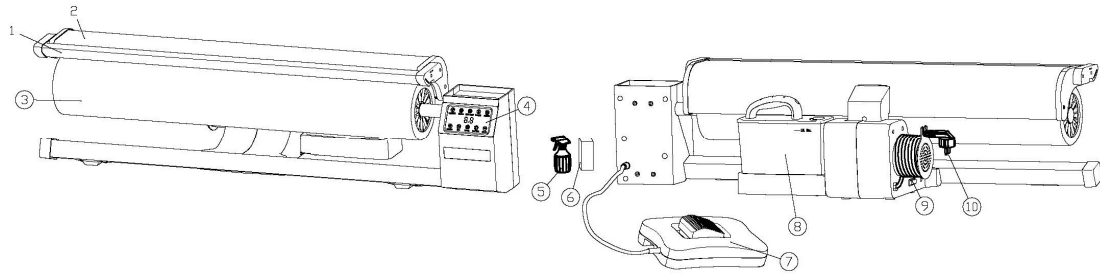
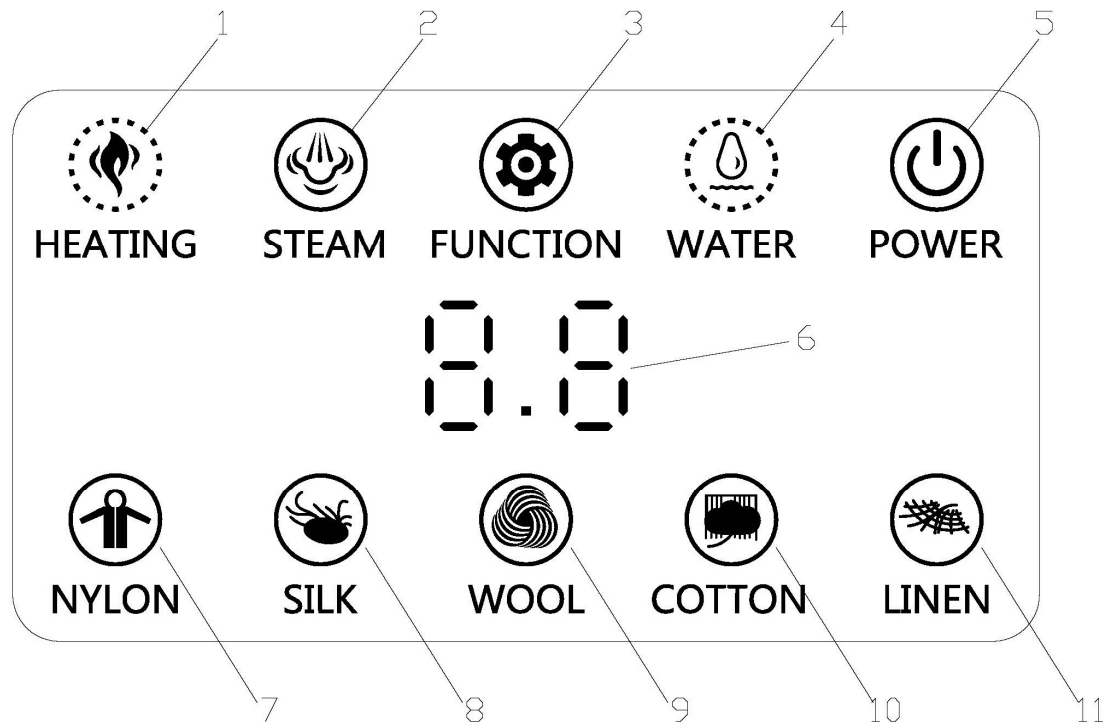
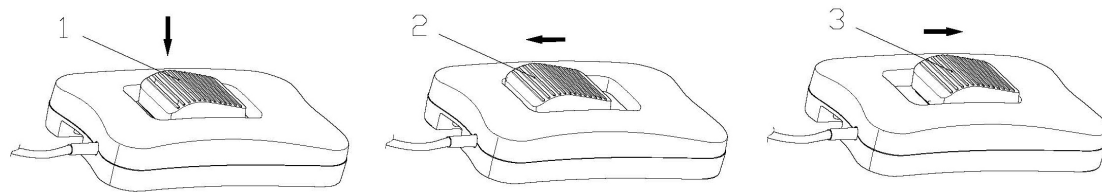

Figure 1
Figure 2
Figure 4
Remove the power cord from the winding frame (Figure 1 No.10), insert the plug into power socket.
Turn the power switch (Figure 1 No.9) to position "I", and at this point, the POWER light (Figure 2 No.5) on the control panel in red. Press the POWER button 2 seconds to start up the product and the pressing plate will be opened and uplifted to the highest position automatically.
The steam ironing is applicable to the menu modes of wool, cotton and linen. Place the fabric on the roller horizontally and select the corresponding menu according to different shell fabrics. The heating indicator light (Figure 2 No.1) is "on" while preheating and "off" after heating, with the whole process taking about 2 minutes. The steam indicator light (Figure 2 No.2) is blue and flickering while heating. The blue indicator light stops flickering and is "on" when the temperature of pressing plate reaches the standard to operate steam ironing. And by this time, press the foot pedal (Figure 4 No.1), the product releases the steam automatically after the pressing plate is pressed. Thus, the ironing operation works.
The no-steam ironing can be achieved in each menu mode of this product. select the corresponding menu according to different shell fabrics. Press the steam selection button (Figure 2 No.2) to cancel the steam function after the red heating indicator light is off. Then press the foot pedal (Figure 4 No.1) and the dry ironing operation works.
In the working status, if there is no operation for 15 minutes, the product will automatically shut down and enter the standby status. The “Power” indicator (Figure 2 No.5) turns to RED.
2.6 Sprayer (Figure 1 No.5)
1. Connect the power plug to power socket and switch the power switch (Figure 1 No.9) on the pedestal to position “I”. At this time, the “POWER” light (Figure 2 No.5) on control panel is red.
2. Press the “FUNCTION” button (Figure 2 No.3) and “POWER” button(Figure 2 No.5) to enter the function set after the “beep”. You can see “P1” is displayed on the control panel now.
3. Press “FUNCTION” button (Figure 2 No.3) 2 seconds and the number will appear & blink.
4. Press the “WATER” button (Figure 2 No.4) to reduce the numbers or press the “COTTON” button(Figure 2 No.10) to increase the numbers. You can read the numbers from the number indicator(Figure 2 No.6). Every press will reduce/increase 1 number.
5. Press the “FUNCTION” button (Figure 2 No.3) 2 seconds to save the setting.
6. Press “POWER” (Figure 2 No.5) button 2 seconds to exit the function set.
7. Place a white paper on the roller and press down the foot pedal(Figure 4 No.1) to test the pressure of pressing plate.
2. Press the “POWER” button(Figure 2 No.5) two seconds to turn on the control panel.
3. Press the “WATER” button (Figure 2 No.4) and the “STEAM” button (Figure 2 No.2) at the same time, the number will appear. The number means “ **% ”, number “00” means “ 100% ”.
4. Press the “WATER” button (Figure 2 No.4) to reduce the numbers or press the “COTTON” button(Figure 2 No.10) to increase the numbers. You can read the numbers from the number indicator(Figure 2 No.6).
2. Press the foot pedal(Figure 4 No.1) in order to keeping the pressing plate pressed.
3. Press the POWER button (Figure 2 No.5) 2 seconds to shut down the product. Turn the power switch (Figure 1 No.9) to position “0”.
2. After the pressing plate is cooled, press the foot pedal(Figure 4 No.1) to keeping the pressing plate (Figure 1 No.2) pressed.